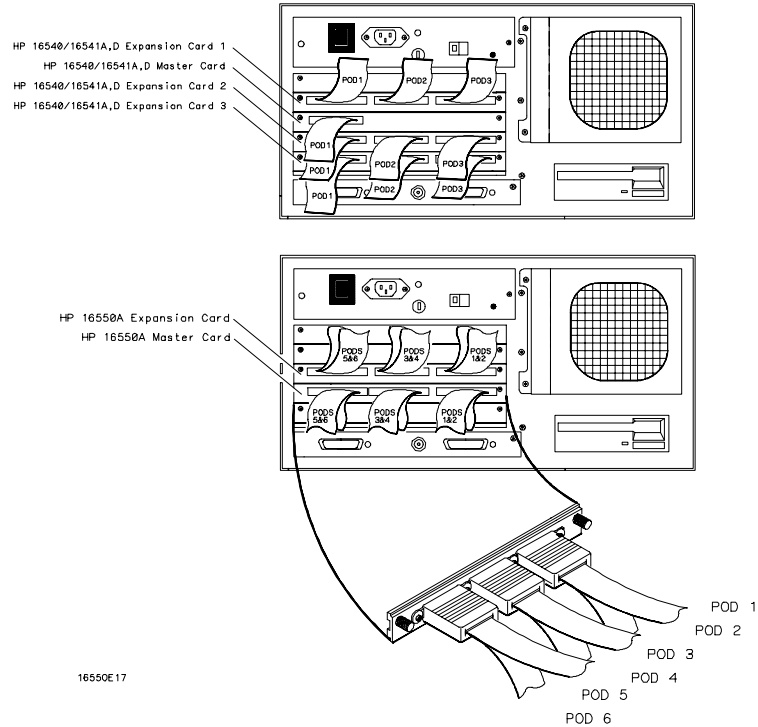

Figure 1-2. Logic Analyzer Card Locations
Connect the logic analyzer probes to the cable connectors of the preprocessor interface board as listed in table 1-3. Figure 1-2 shows the relative locations of the logic analyzer cards.
* For the HP 16541A,D cards, expansion card 1 is the physically highest HP 16541A,D card, expansion card 2 is the second physically highest HP 16541A,D card, and expansion card 3 is the third highest HP 16541A,D card (see fig. 1-2).